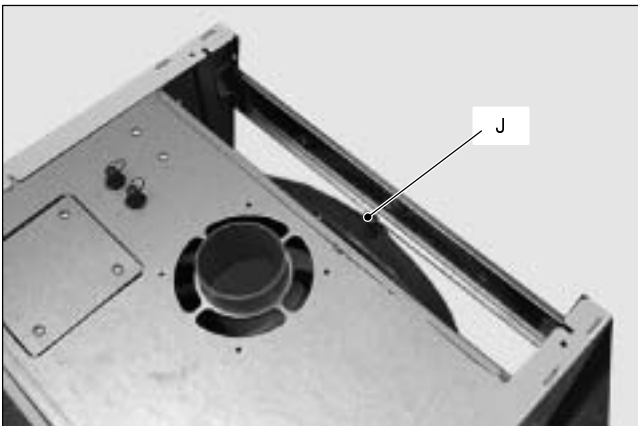

Fig. 53
- 2 Remove the protective cap *J* (Fig. 53) from the valve on the top of the expansion vessel and connect a suitable air pressure gauge.